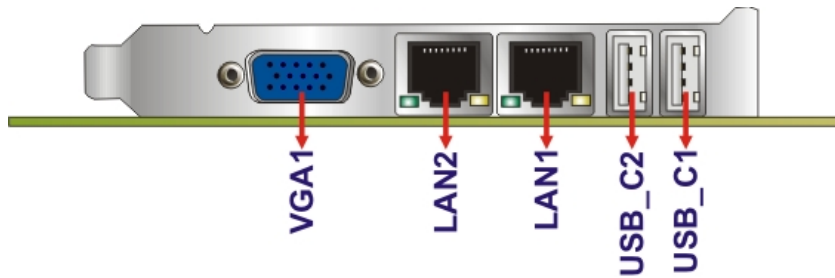

Figure 3-23: External Peripheral Interface Connector
- CN Location:** See Figure 3-23
CN Location: See **Figure 3-23**
- CN Location:** See **Figure 3-23**